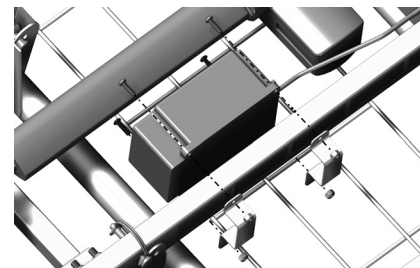

Figure 1
4. Using provided fasteners and brackets, attach the battery to the frame of the bed (Figure 1). The cable should be facing towards the foot of the bed and the edge of the battery should be about 5 inches from the split in the frame.